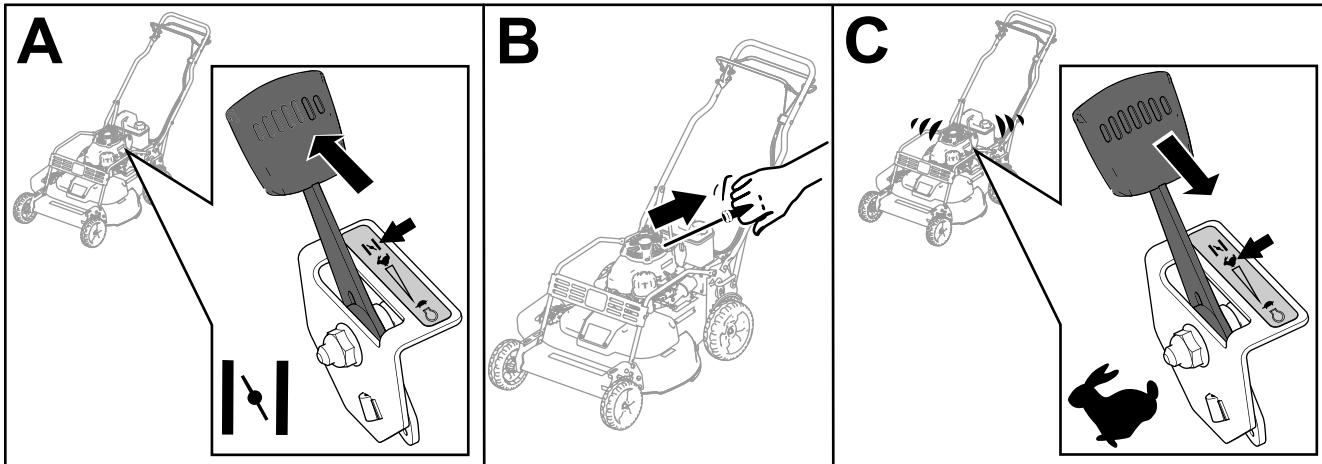

Figure 15
3. Move the throttle control to the CHOKE position (A of Figure 15).
4. Pull the starter handle lightly until you feel resistance, then pull it sharply (B of Figure 15).
5. Move the throttle control lever to the FAST position when the engine starts (C of Figure 15).